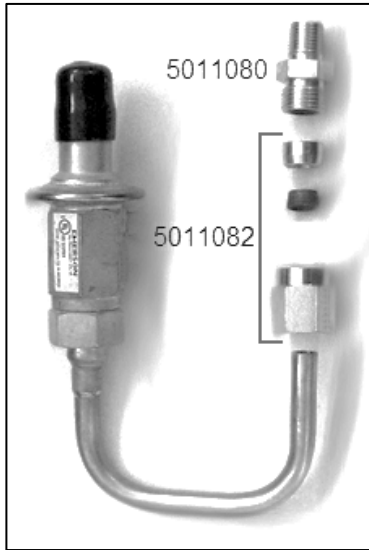

Figure 6
7. Install #5011082 compression fitting on the bare end of the bypass tube welded assembly. (Fig 6) Make sure the end is extra clean and free of burrs. In doubt, use a fine "Scotch Brite" type scouring pad.
8. Install #5011080 ORS adapter between the compression fitting and the female Tee. (Fig. 6)